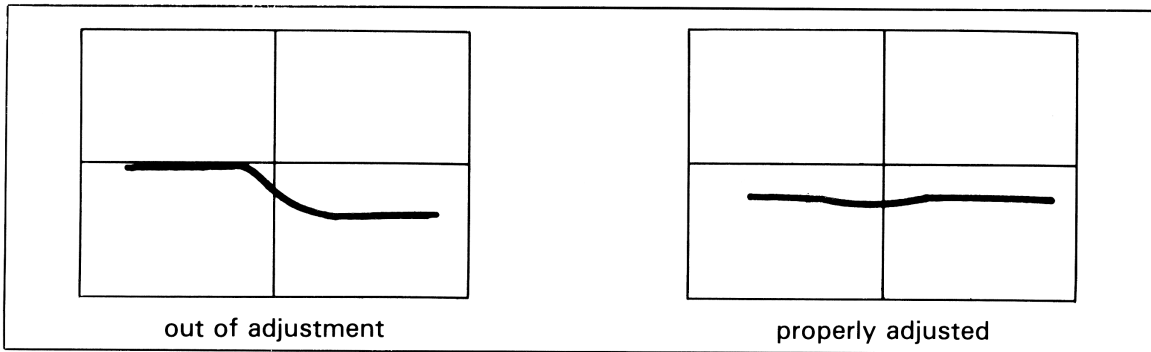

Figure 7-3. Symmetry Adjustment
Figures 7-3 and 7-4 will be referred to throughout the remaining IF Adjustment procedures.
d. Adjust A13L7 so that the trace approximates a straight, horizontal line. (See Figure 7-3.)
c. Adjust A13L6 so that the trace approximates a straight, horizontal line. (See Figure 7-3.)
c. Adjust A13L5 so that the trace approximates a straight, horizontal line. (See Figure 7-3.)
c. Adjust A13L4 so that the trace approximates a straight, horizontal line. (See Figure 7-3.)
f. Adjust A12L4 so that the trace approximates a straight, horizontal line. (Figure 7-3.)